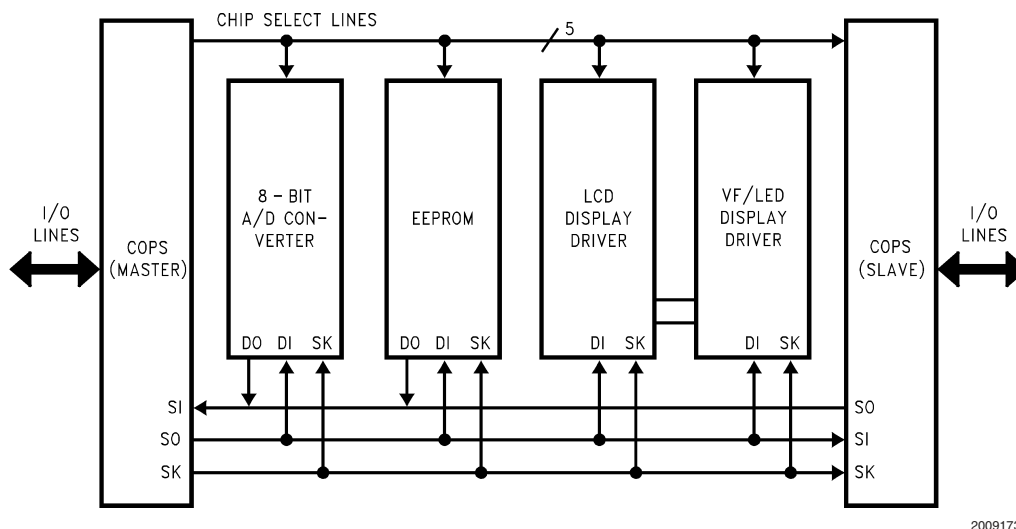

FIGURE 24. MICROWIRE/PLUS Application
MICROWIRE/PLUS is a serial SPI compatible synchronous communications interface. The MICROWIRE/PLUS capability enables the device to interface with MICROWIRE/PLUS or SPI peripherals (i.e. A/D converters, display drivers, EEPROMs etc.) and with other microcontrollers which support the MICROWIRE/PLUS or SPI interface. It consists of an 8-bit serial shift register (SIO) with serial data input (SI), serial data output (SO) and serial shift clock (SK). *Figure 24* shows a block diagram of the MICROWIRE/PLUS logic.
Setting the BUSY bit in the PSW register causes the MICROWIRE/PLUS to start shifting the data. It gets reset when eight data bits have been shifted. The user may reset the BUSY bit by software to allow less than 8 bits to shift. If enabled, an interrupt is generated when eight data bits have been shifted. The device may enter the MICROWIRE/PLUS mode either as a Master or as a Slave. *Figure 24* shows how two microcontroller devices and several peripherals may be interconnected using the MICROWIRE/PLUS arrangements.